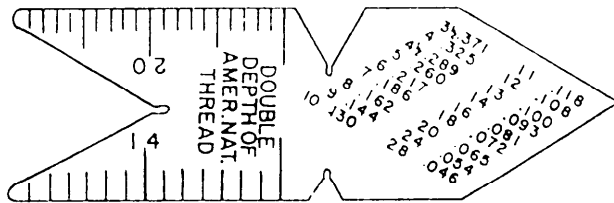

Figure 1-20.—Center gauge.
**CENTER GAUGE.**—Use the center gauge (fig. 1-20) like the Acme thread gauge. Each notch and the point of the gauge has an included angle of  $60^\circ$ . Use the gauge primarily to check and to set the angle of the V-sharp and other  $60^\circ$  standard threading tools. You may also use it to check the lathe centers. The edges are graduated into  $1/4$ ,  $1/24$ ,  $1/32$ , and  $1/64$  inch for ease in determining the pitch of threads on screws.